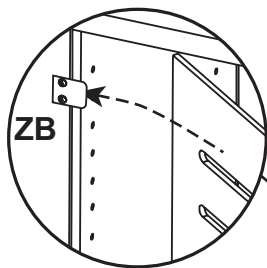
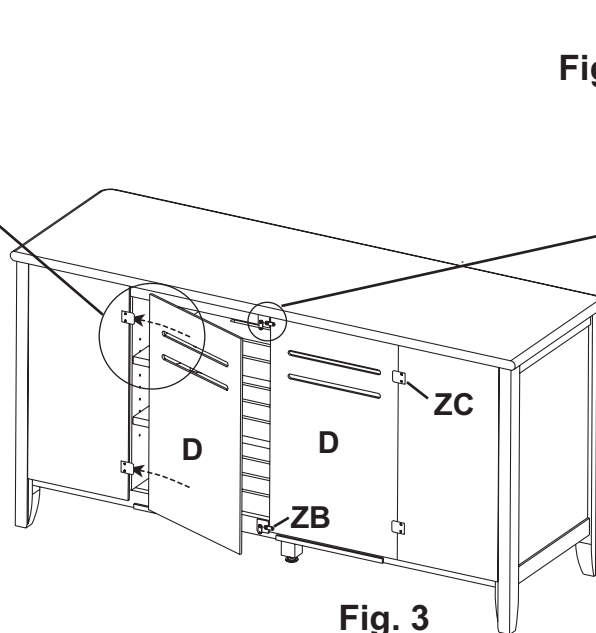

Fig. 3a
Fig. 3
- 3. You may want to remove the Removable Backs (D) so that you can fit your media units into the console more easily. To do so, unlock the Turn Button (ZC) as shown in Figures 3 and 3b. Slide the Backs away and place them off to the side. To put them back into place, slide the Backs behind the Drawer Stops (ZB) and position the Turn Button so that it is locked. See Figures 3a and 3b.**